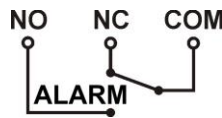

Fig. 5. Electrical diagram of the ALARM collective output of failure.
**CAUTION!** In Fig.5 the set of contacts shows a potential-free status of the relay, which corresponds to power supply failure.